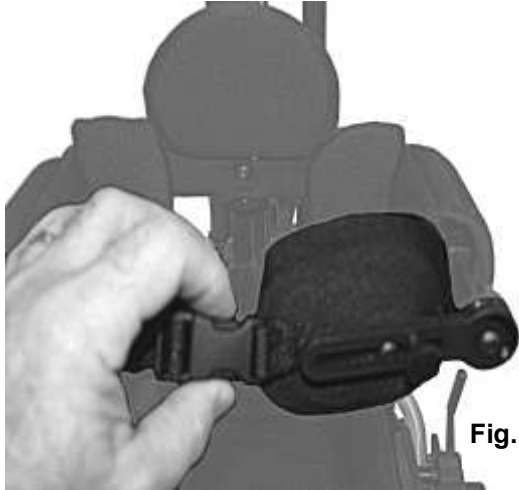

Fig. 21
- Squeeze the sides of the buckles on the forward pads on hip assembly (and lateral chest system if applicable) to release (fig. 21).